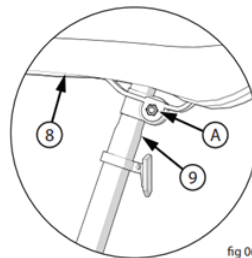

fig 06
1. Try to turn the seat side-to-side and to move the front of the seat up and down. If the seat moves in the Seat Clamp (A) (fig 06), loosen the Seat Clamp.
4. If the Seat Post (9) moves in the Seat Tube (B): Move the Quick Release Lever to the “open” position, put the seat in the correct position and tighten the Quick Release Lever tighter than before.